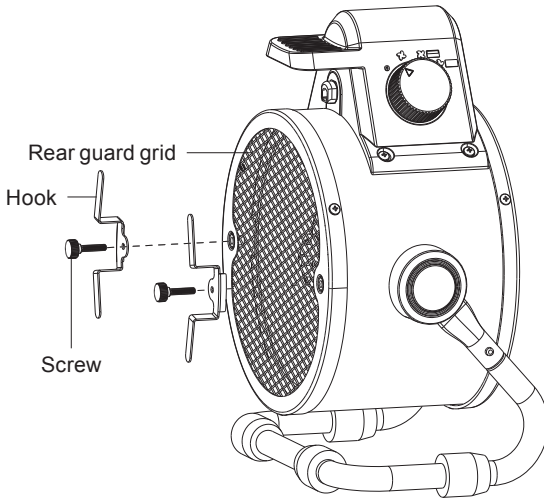

Figure 1
1. Place the appliance on its sand. Insert each hook in notches scheduled on the rear guard grid and screw them with the red screws supplied, like on figure 1.